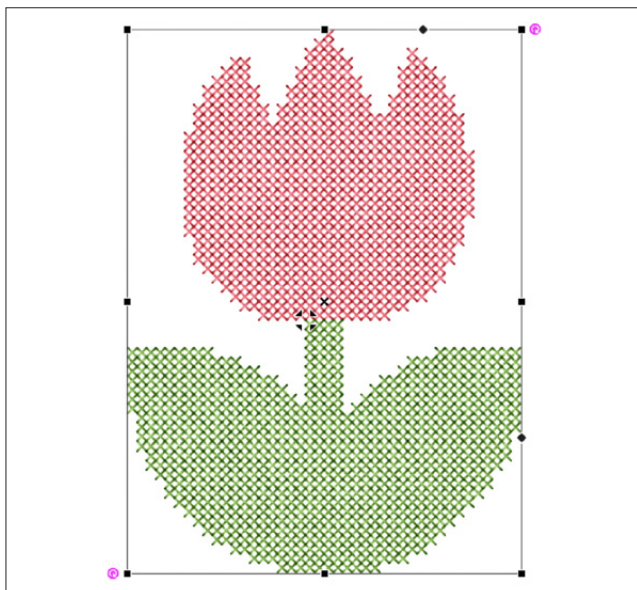

Figure 35
3. Click Finish when done. The auto digitized cross stitch pattern will now appear in your workspace. **See Figure 35.**